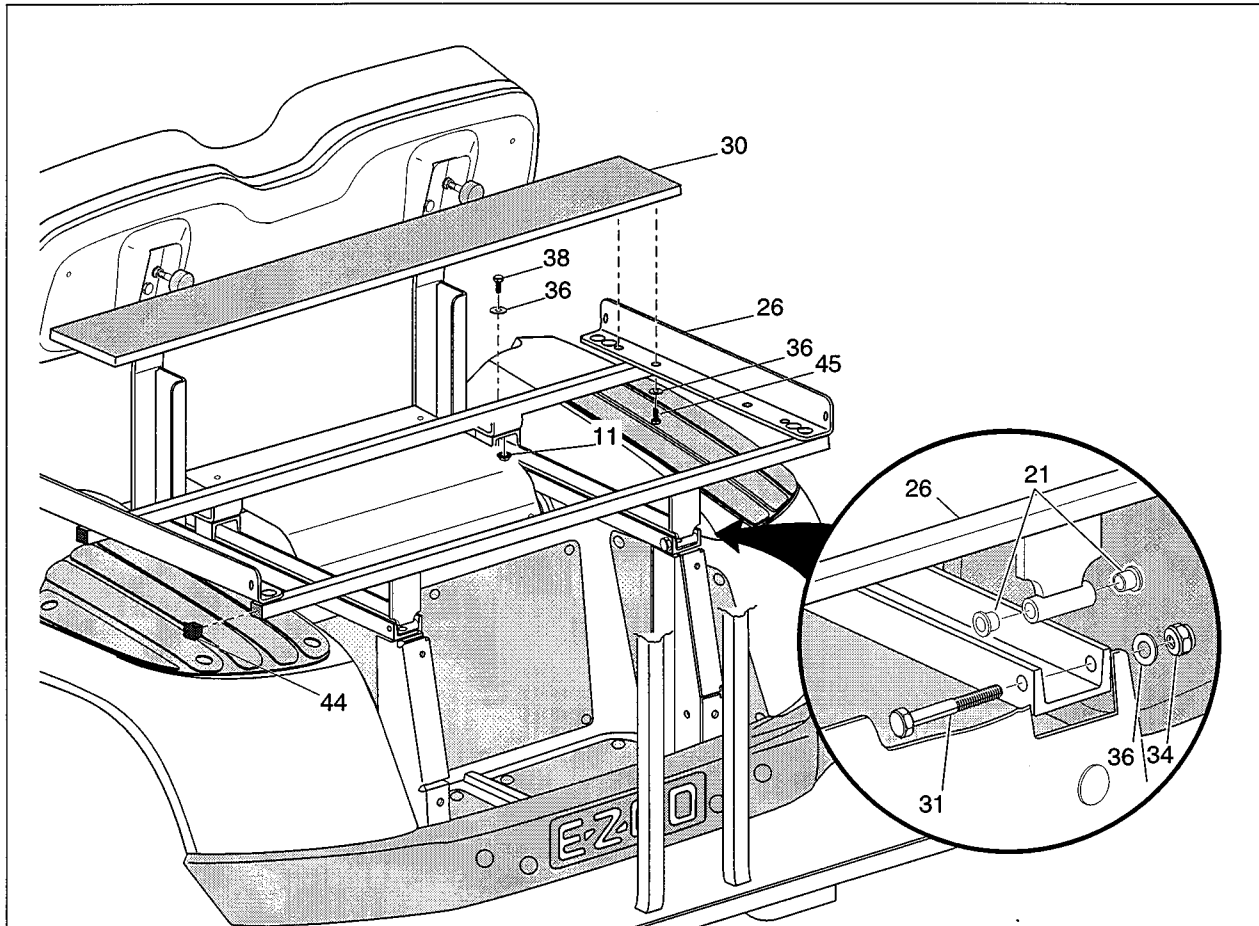

Fig. 6
3. As a 'test fit', place the support frame (item 26) into the channels of the seat back support (See Fig. 6) and tighten the hardware securing the seat back support to the vehicle frame and vertical frame support to 21-25 ft. lbs. torque.